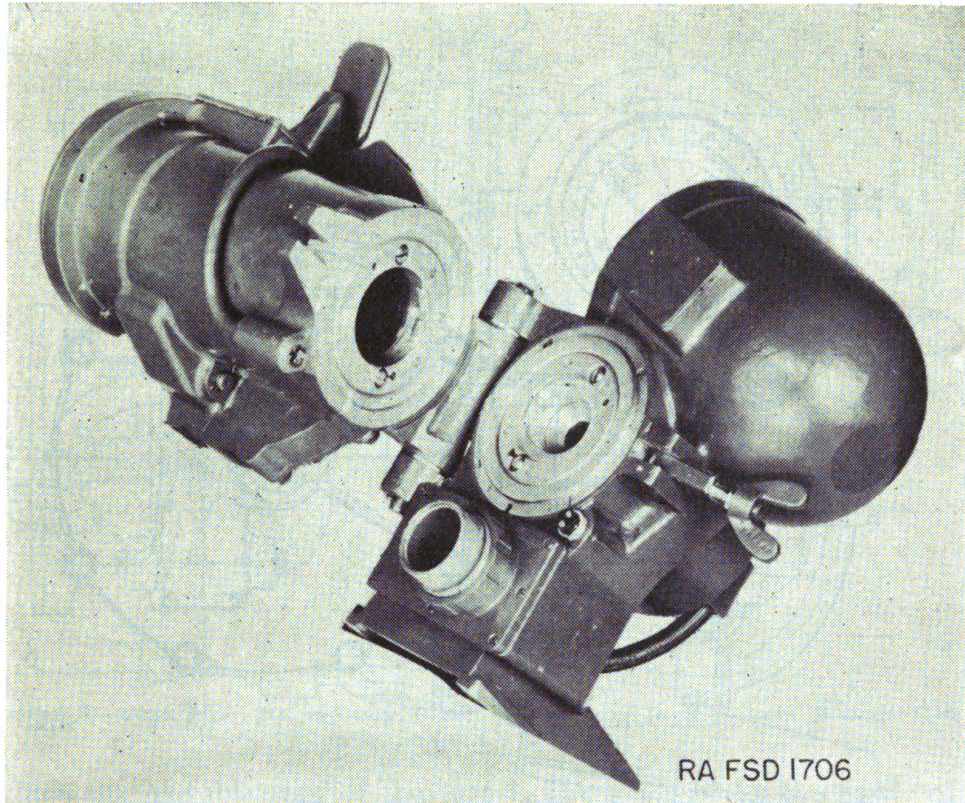

FIGURE 3.—Fuze setter, M8, open.
(3) Check fuze range scale and adjusting and setting rings in setter to insure that they correspond with the fuze in use. The fuze setter may be swung open for examination (fig. 3) by backing off the wing nut on the eyebolt. Instructions for changing scales and rings, when necessary, are given in paragraph 4. (The fuze setter is ordinarily issued initially with rings for the dummy fuze and a scale for 21-second powder-train fuzes.) Be sure that the fuze setter is closed